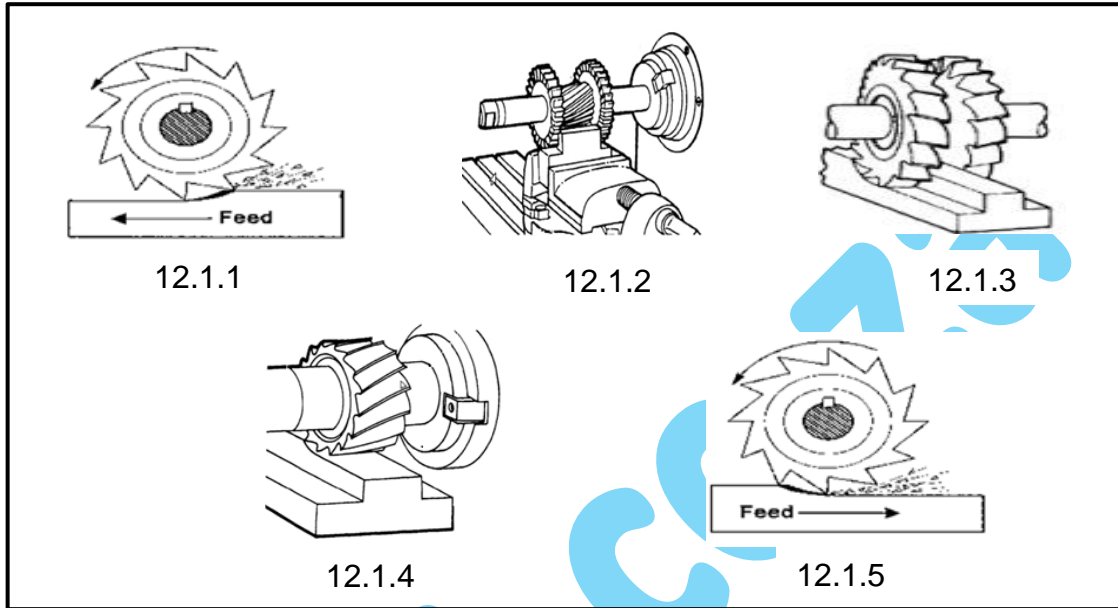

FIGURE 3
12.1 Name the FIVE types of milling processes indicated in FIGURE 3 below. Write only the answers next to the question number (12.1.1–12.1.5) in the ANSWER BOOK.